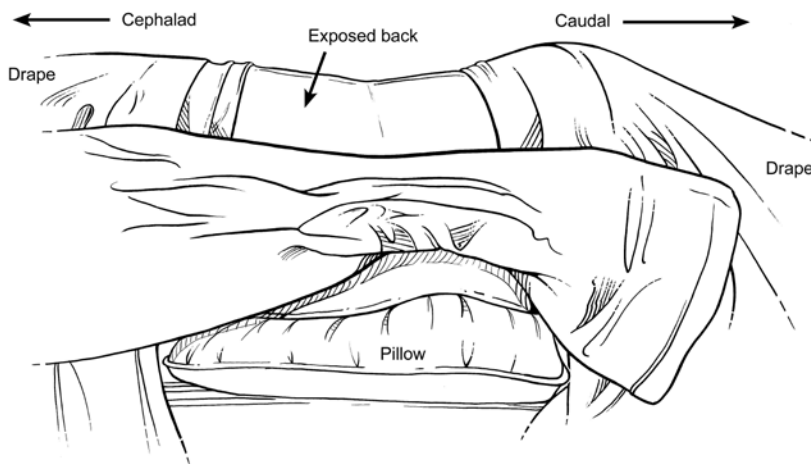

FIGURE 26
- 2 Perform skin prep and drape the patient using standard sterile technique (FIGURE 26).